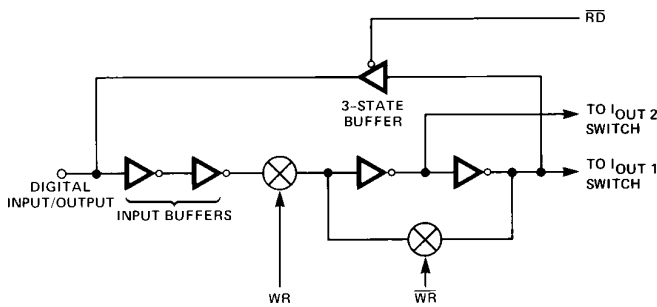

Figure 5. Digital Input/Output Structure
Figure 5 shows the digital input/output structure for one bit. The digital WR, RD, and RD controls shown in the figure are internally generated from the external A/B, R/W, DS1, and DS2 signals. The combination of these signals decide which DAC is selected. The digital inputs are CMOS inverters, designed such that TTL input levels (2.4 V and 0.8 V) are converted into CMOS logic levels. When the digital input is in the region of 1.2 V to 1.8 V, the input stages operate in their linear region and draw current from the +5 V supply (see Typical Supply Current vs. Logic Level curve on page 6). It is recommended that the digital input voltages be as close to VDD and DGND as is practical in order to minimize supply currents. This allows maximum savings in power dissipation inherent with CMOS devices. The three-state readback digital output drivers (in the active mode) provide TTL-compatible digital outputs with a fan-out of one TTL load. The three state digital readback leakage-current is typically 5 nA.
**General Ground Management:** AC or transient voltages between AGND and DGND can appear as noise at the DAC8408's analog output. Note that in Figures 5 and 6,  $I_{OUT2A}/I_{OUT2B}$  and  $I_{OUT2C}/I_{OUT2D}$  are connected to AGND. Therefore, it is recommended that AGND and DGND be tied together at the DAC8408 socket. In systems where AGND and DGND are tied together on the backplane, two diodes (1N914 or equivalent) should be connected in inverse parallel between AGND and DGND.